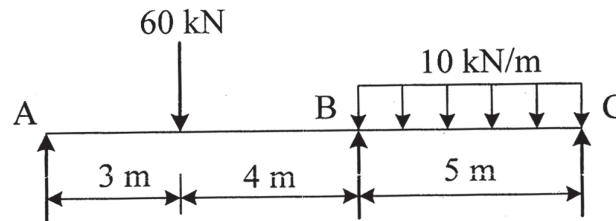

Fig. 1 (b)
- (b) Determine moment at B for the continuous beam loaded and supported as shown in Fig. 1 (b) by three moment theorem. Assume uniform flexural rigidity. [6]